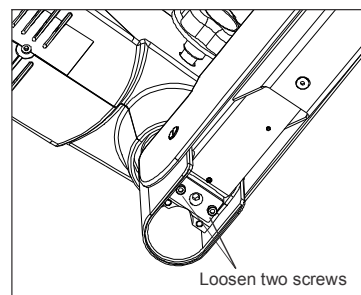

Fig. 19
2. Loosen as much as possible the two allen bolts by using allen wrench of 4 mm as shown in fig 19. Note that these two screws will not come out
4. After achieving the desired tension on gas piston, Re tighten the two screws back as shown in fig 19